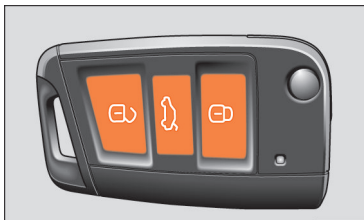

Fig. 90 Remote control key: buttons.
- Lock: press the  **>>> Fig. 90** button.